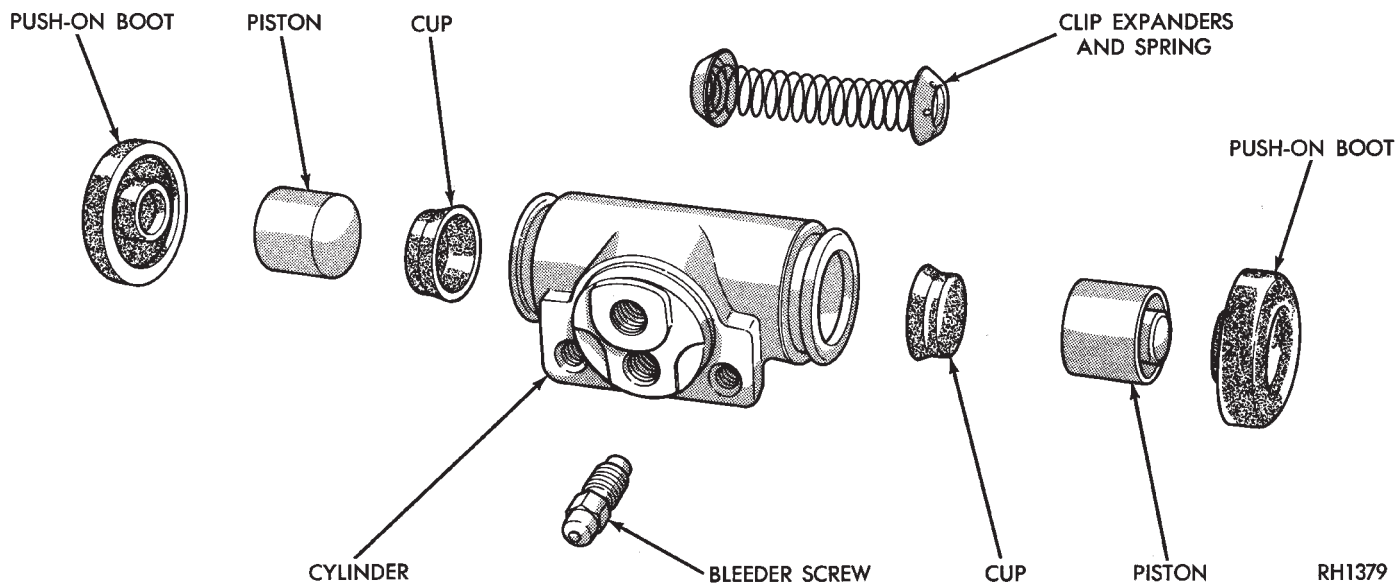

Fig. 3 Rear Wheel Cylinder
To disassemble the wheel cylinders, (Fig. 3) proceed as follows:
- (1) Coat cylinder bore with clean brake fluid.
- (2) Install expansion spring with cup expanders in cylinder. Install cups in each end of cylinder with open end of cups facing each other (Fig. 3).
- (3) Install piston in each end of cylinder having the flat face of each piston contacting the flat face of each cup, already installed (Fig. 3).
- (4) Install a boot over each end of cylinder. **Be careful not to damage boot during installation.**